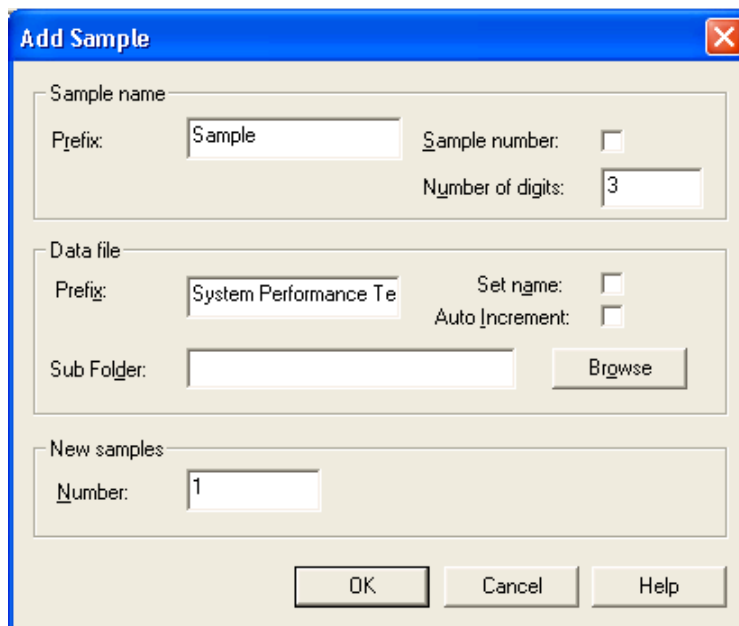

Figure 2-27 Add Sample dialog—system performance test
2. Build the acquisition batch, as shown in Figure 2-27.